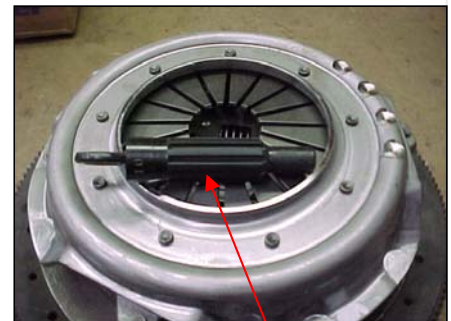

Fig. 6
4. Insert Clutch Aligning Tool into Driven Discs and the Pilot Bearing. (Fig 6)